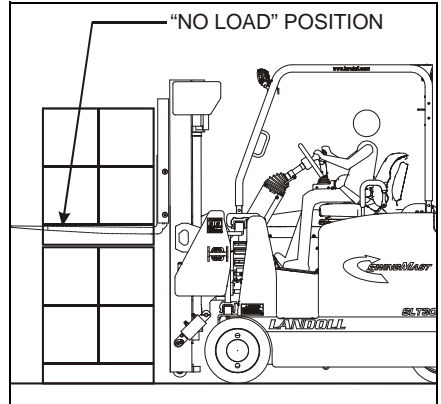

Figure 4-20: No Load Position
10. Carefully lower the forks until the load sits firmly on the rack. Continue to lower the forks until they no longer support the load ('no load' position). See **Figure 4-20**.